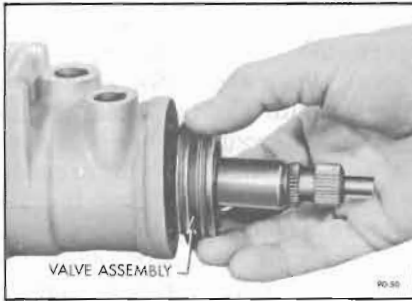

Figure 90-50—Inserting Valve Assembly in Housing
1. Align the narrow pin slot on the valve body with the valve body drive pin on the worm. Insert the valve assembly into the gear housing by pressing against the valve body with the finger tips. Do not press on stub shaft or torsion bar. See Figure 90-50. The return hole in the gear housing should be fully visible when valve is assembled properly. See Figure 90-51.
2. Insert the valve assembly and worm in gear housing as an integral unit. Do not press on stub shaft or torsion bar. See Figure 90-50. Return hole in housing should be fully visible when valve and worm are properly installed. See Figure 90-51.